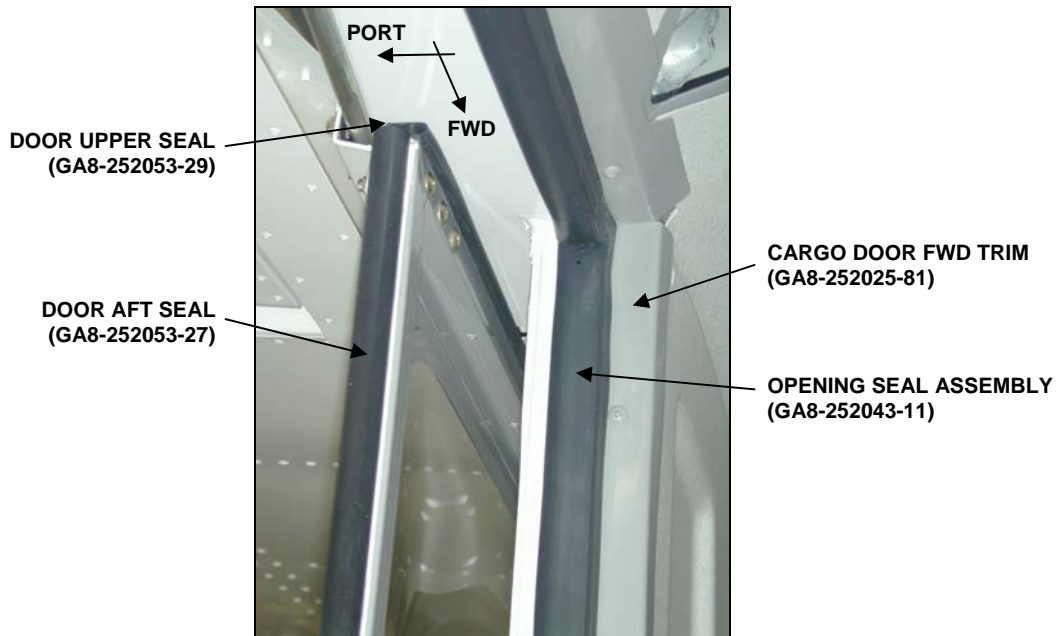
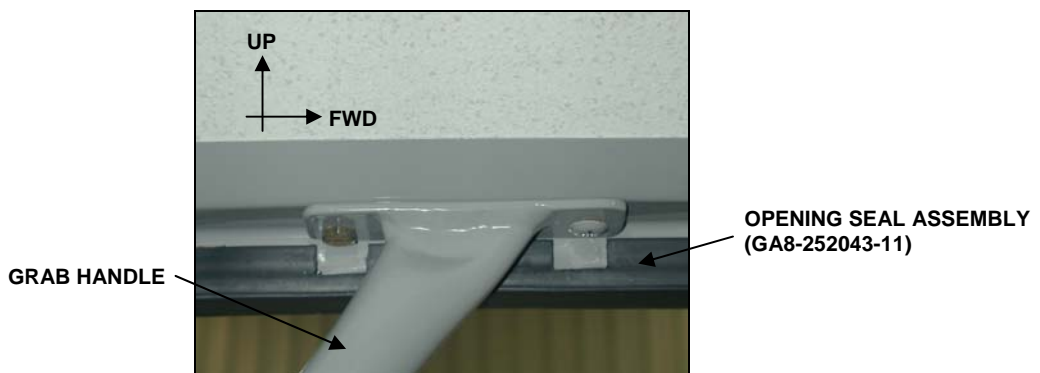

Figure 13: Installation of the new upper and aft cabin door seals and cabin door opening seal assembly.
Figure 14: Trimming of the opening seal attach flange around the grab handle fasteners.
34. Locate and install the opening seal assembly (P/N GA8-252043-11) over the door seal angles from the forward lower to aft upper corners of the door opening, using Dow Corning Silastic 747 Silicone RTV Adhesive/Sealant as the bonding agent injected into the channel between the attach flange and D section of the seal, similar to the installation shown in Figure 13. Locate and bond the seal assembly joint into the upper forward corner of the door opening, and ensure there is a 1/8" gap between the forward lower end of the seal and the floor. Trim minimal amounts from the seal attach flange to allow ease of installation of the seal around the grab handle fasteners, similar to the installation shown in Figure 14. Smooth the seal attach flange as necessary to remove wrinkles.